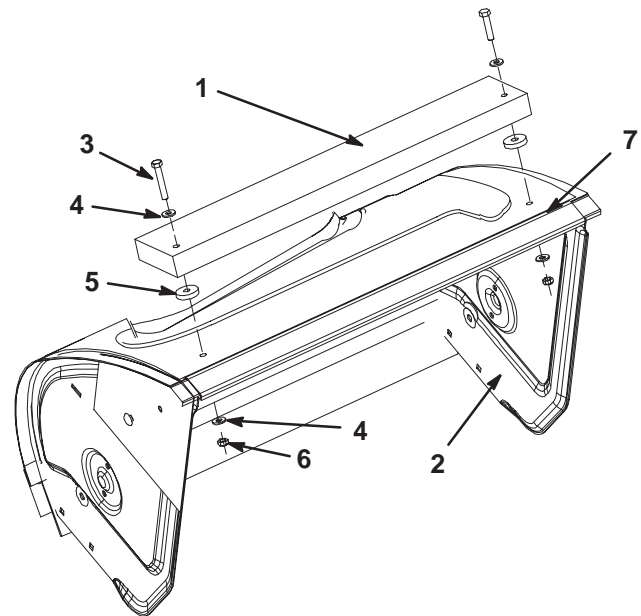

Figure 1
2. Center the weight bar on the top of the auger housing (Fig. 1).